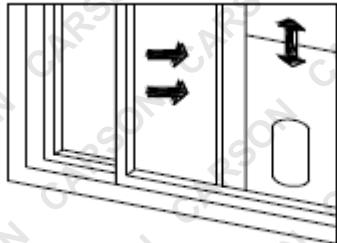

Figure 7
1. Open the window halfway and mount the window sealing board assembly onto the window, either vertically or horizontally (as shown in Figure 7 and 8).